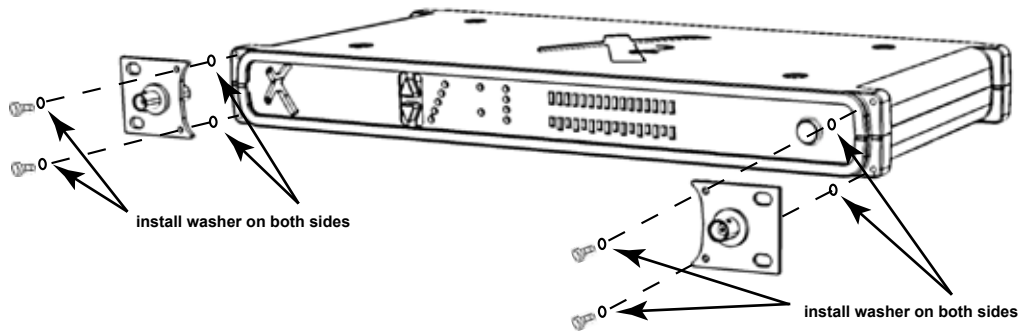

FIGURE 8
1. Only mount rack ears onto the chassis with supplied 1/4" hex screw and washers making certain to place a washer on each side of the rack ear as shown in figure 8.